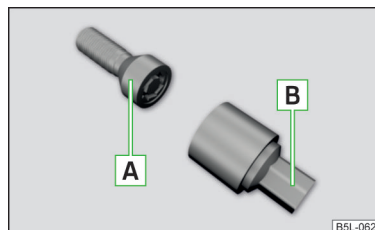

Fig. 273
The anti-theft wheel bolts protect wheels from being stolen. This can only be **loosened/tightened** with attachment **B** » Fig. 273.
- Insert the wheel wrench onto the wheel bolt to the stop. Use the associated attachment for the anti-theft wheel bolts » Fig. 273 on page 223.